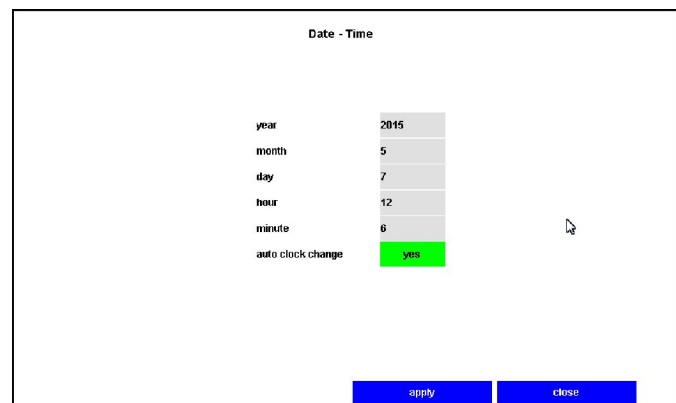

Fig. 25: Setting the date and time
- ▶ Select the 'year' (Fig. 25) field and enter the calendar year.
- ▶ Enter 'month', 'day', 'hour' and 'minute' (Fig. 25) in the same way.